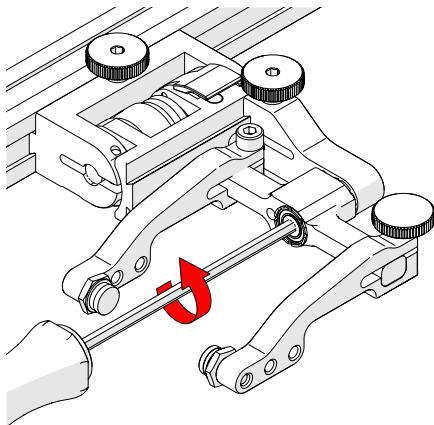

Fig. 51 - Unscrew yoke pivot screw
1. Unscrew the yoke from the swing arm (Fig. 51).